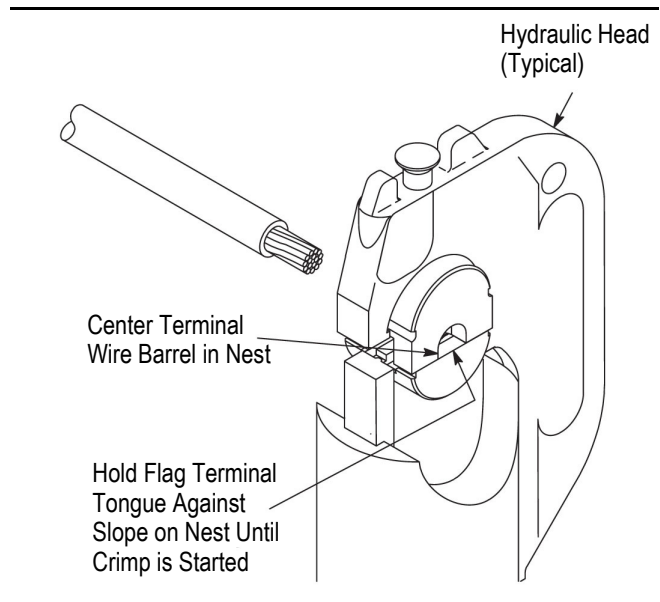

Figure 4
2. Center flag terminal wire barrel in die nest. When crimping flag terminals, hold tongue of flag terminals against nest as shown in Figure 4. If terminal locator is present, slide terminal into terminal locator and press the tongue of the flag terminal against the slope on the nest.